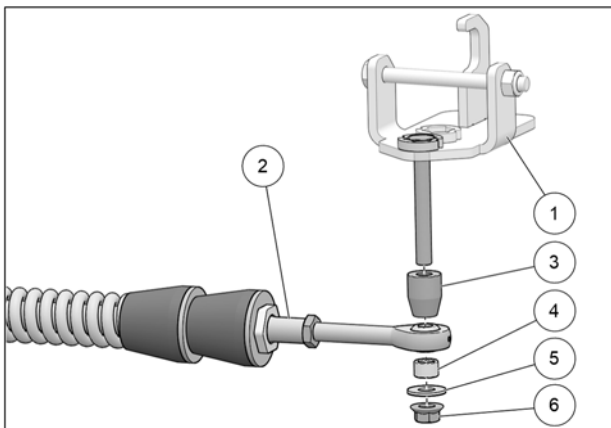

Fig. 10
9. Attach the stabilizing rod (2) to the anchor bracket (1), using the long spacer bushing (3), short spacer bushing (4), flat washer (5) and nut (6). Torque to 70 N•m [52 lb•ft]. See Fig. 10